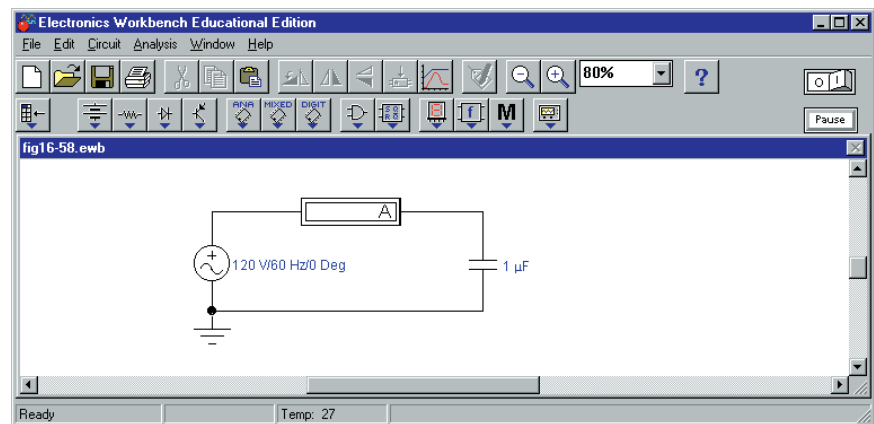

FIGURE 16-58
37. **EWB** Create the circuit of Figure 16-58 on the screen. (Use the ac source from the Sources Parts bin and the ammeter from the Indicators Parts bin.) Double click the ammeter symbol and set Mode to AC. Click the ON/OFF switch at the top right hand corner of the screen to energize the circuit. Compare the measured reading against the theoretical value.
38. **EWB** Replace the capacitor of Figure 16-58 with a 200-mH inductor and repeat Problem 37.